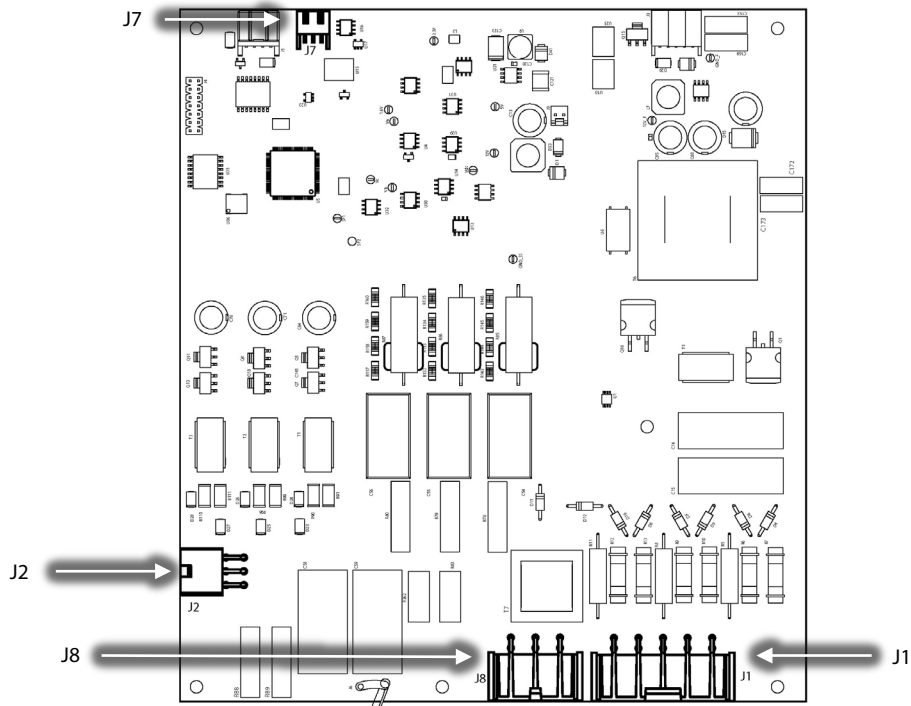

Figure 22 – Open-Top Soft Start Connections
- 3. Install the new Soft Start with the new anti-rotation plates and fasteners. Torque the fasteners to 5 Nm (42 in.lb.). Refer to Figure 22 – *Soft Start Installation*.
4. Connect the Soft Start Temperature Sensor Harness to the Soft Start. The connector is now J7 on the Open-Top Soft Start but was formerly J9 on the old Soft Start. Refer to Figure 22 – Open-Top Soft Start Connections for locations of all connectors used in this instruction.